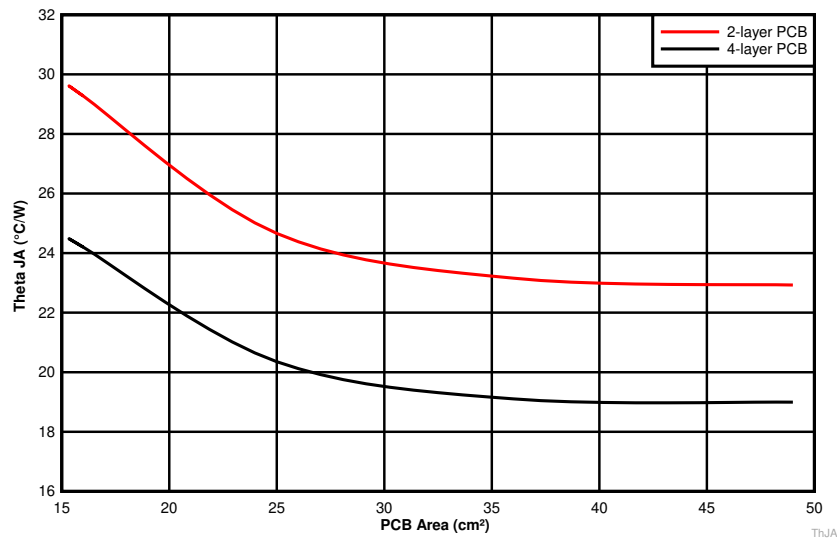

Figure 9-5. θ_{JA} vs PCB Area
The amount of PCB copper affects the thermal performance of the device. Figure 9-5 shows the effects of copper area on the junction-to-ambient thermal resistance ($R_{\theta JA}$) of the LMZM33602. The junction-to-ambient thermal resistance is plotted for a 2-layer PCB and a 4-layer PCB with PCB area from 16 cm² to 49 cm².
3. Reference Figure 9-5 to determine the minimum required PCB area for the application conditions.